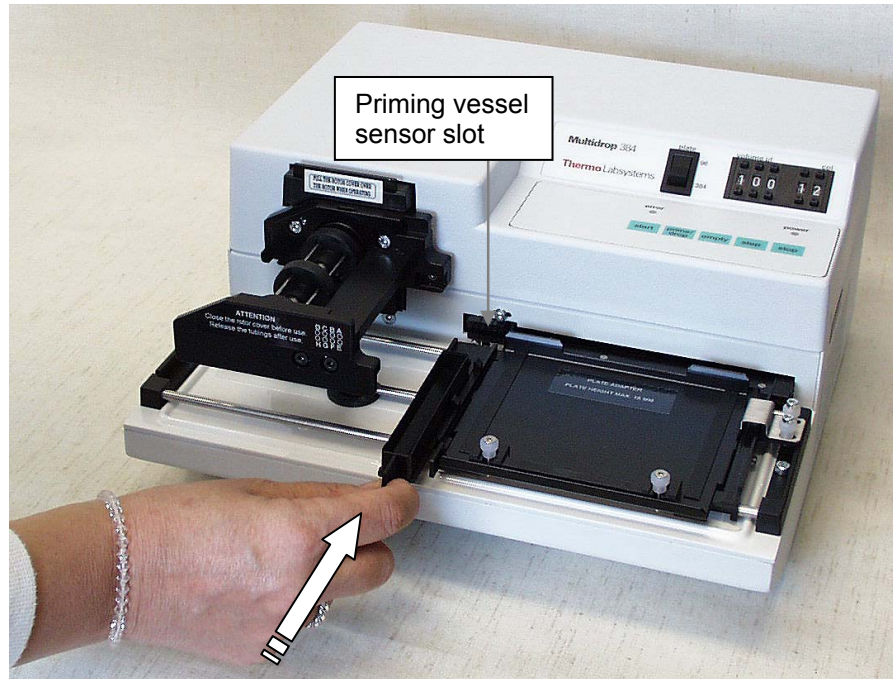

Fig. 6.1 Inserting the priming vessel into place
1. Ensure that the priming vessel is inserted correctly into its slot on the left of the plate carrier (Fig. 6.1). You have fastened it correctly when it snaps slightly and is inserted into the sensor slot.